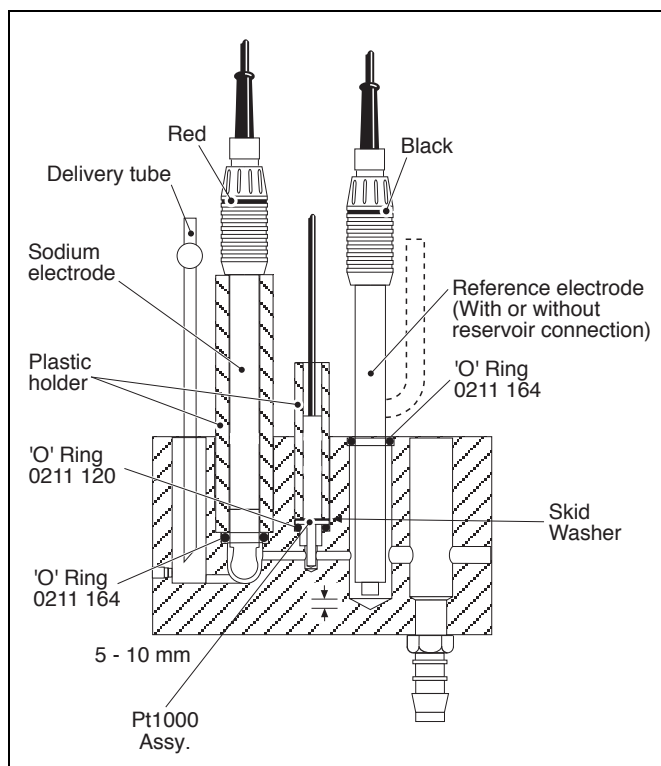
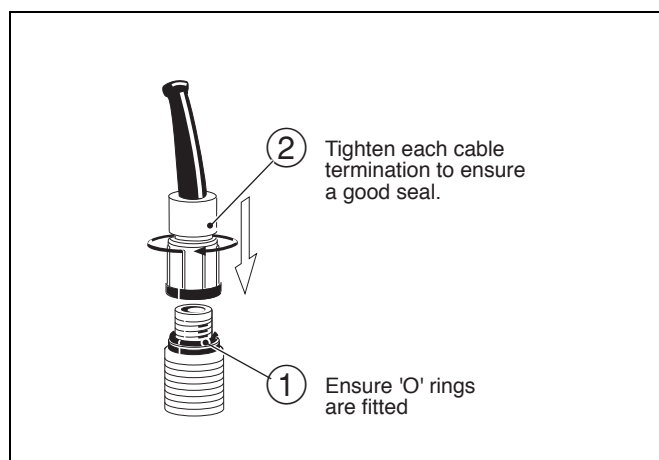
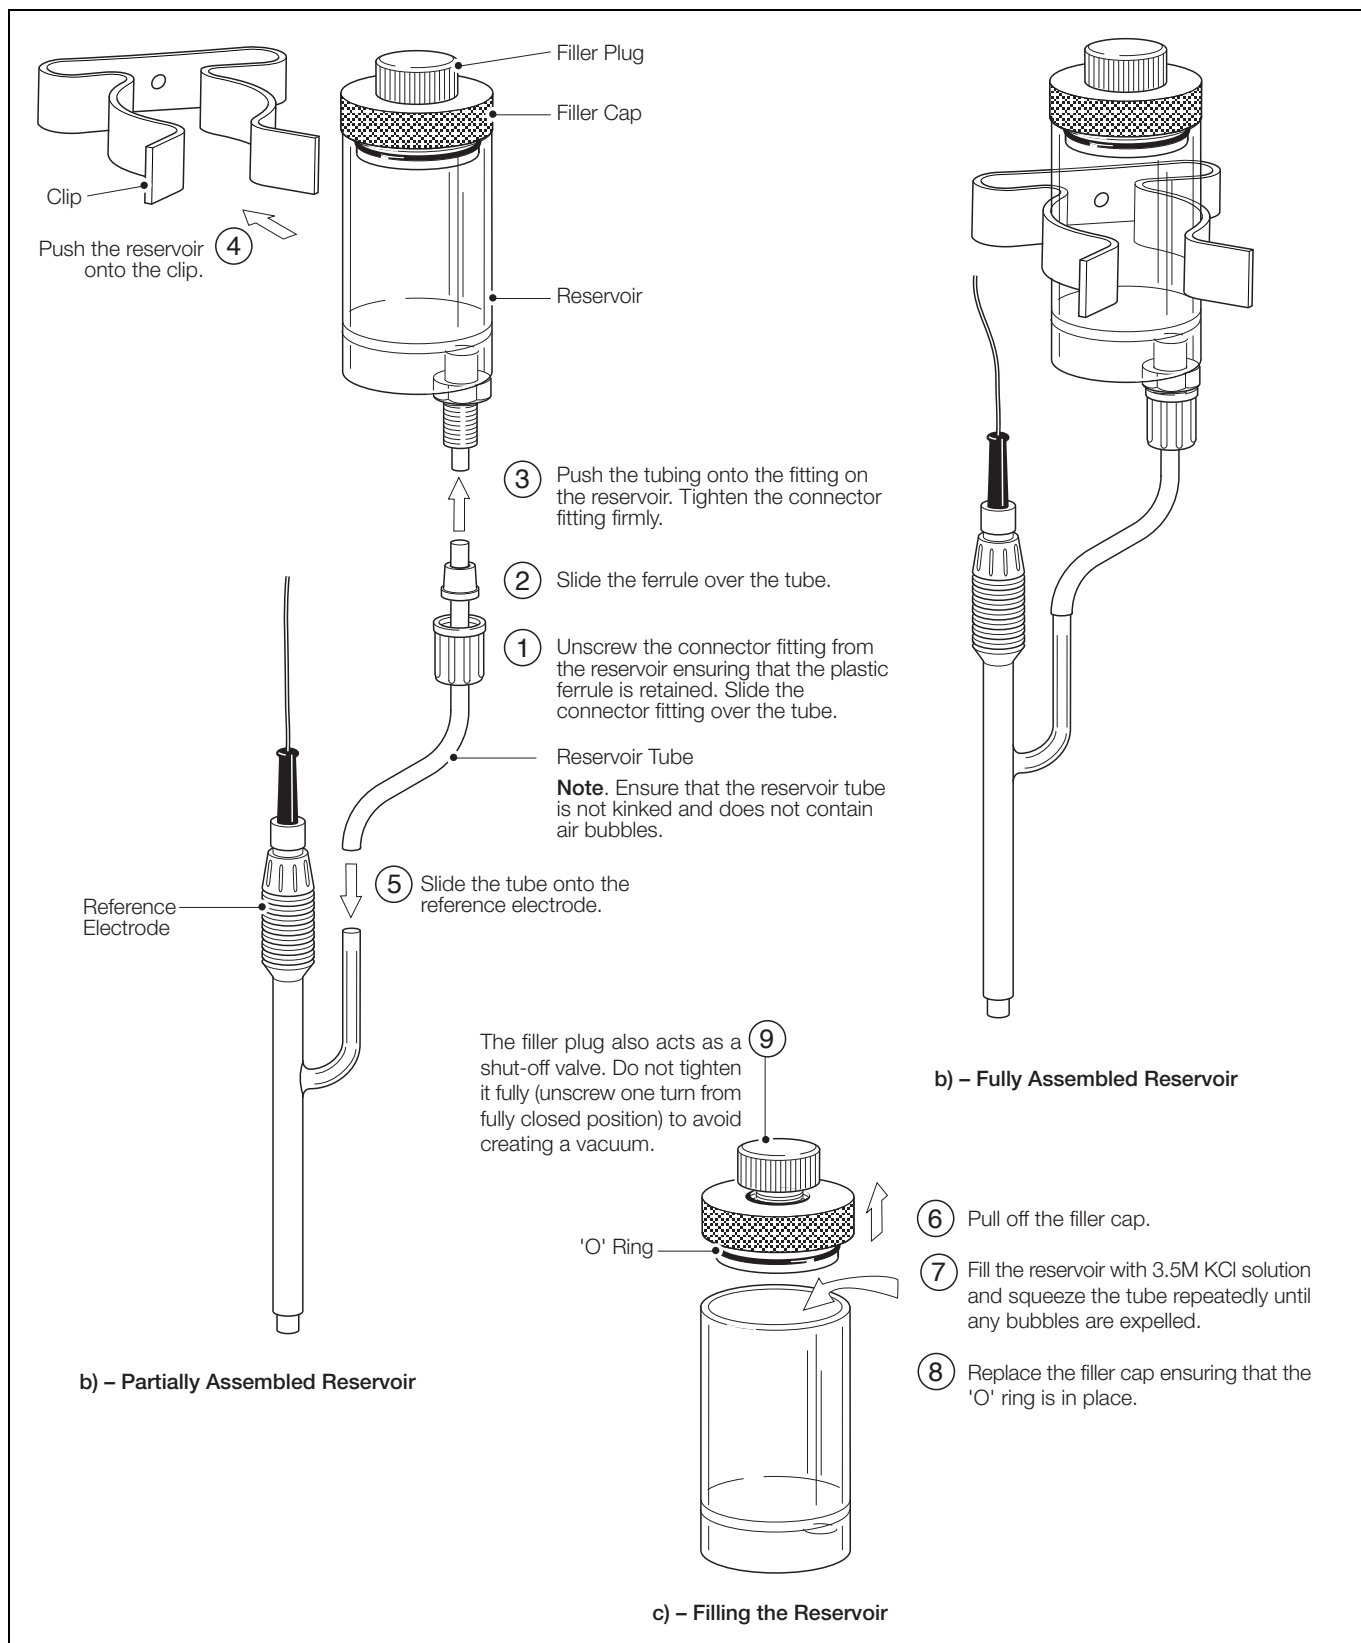
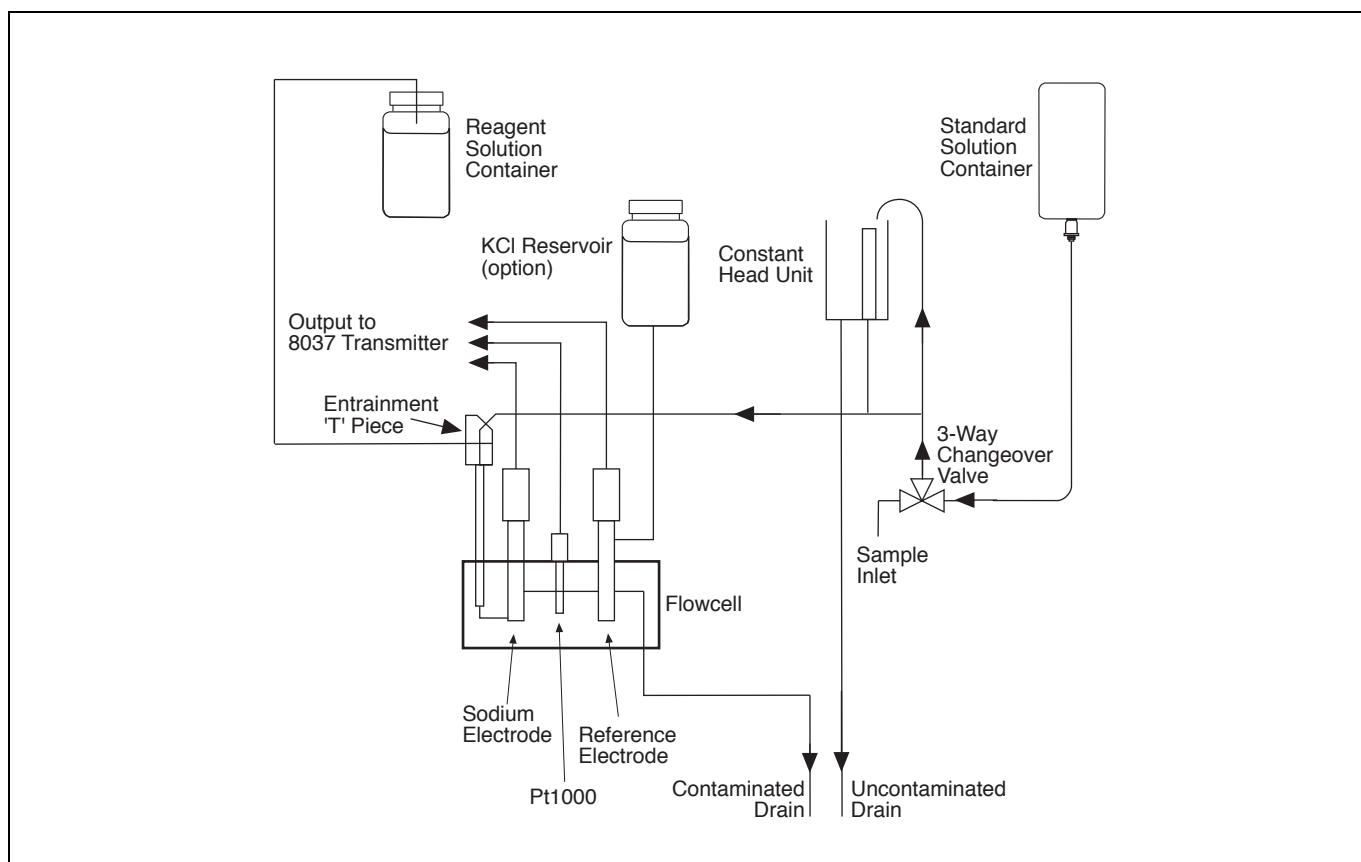

Fig. 4.1 Flowcell
Fig. 4.2 Electrode Connections
Fig. 4.3 Fitting and Filling the Reservoir
Fig. 4.4 Schematic Flow Diagram
1. Unpack the sodium electrode and carefully remove the rubber teat. Unscrew the cylindrical plastic holder from the flow cell - see Fig. 4.1, and slide the electrode fully into the holder. Carefully screw the holder, with electrode, into the appropriate bore of the flow cell so that the electrode bulb passes through the 'O' ring.
1. Proceed as described in section 4.1.1a to install the sodium electrode and then connect the red connector to the electrode - see Fig. 4.1 and Fig. 4.2.
2. Proceed as described in section 4.1.1b to install the reference electrode, and then connect the black connector to the electrode - see Fig. 4.1, Fig. 4.2 and Fig. 4.3.
The reservoir comes partially assembled as shown in Fig. 4.3.
Complete the assembly and fit the reservoir as shown in Fig. 4.3.
A flow schematic is shown in Fig. 4.3 and the physical layout of the unit is shown in Fig. 4.4.